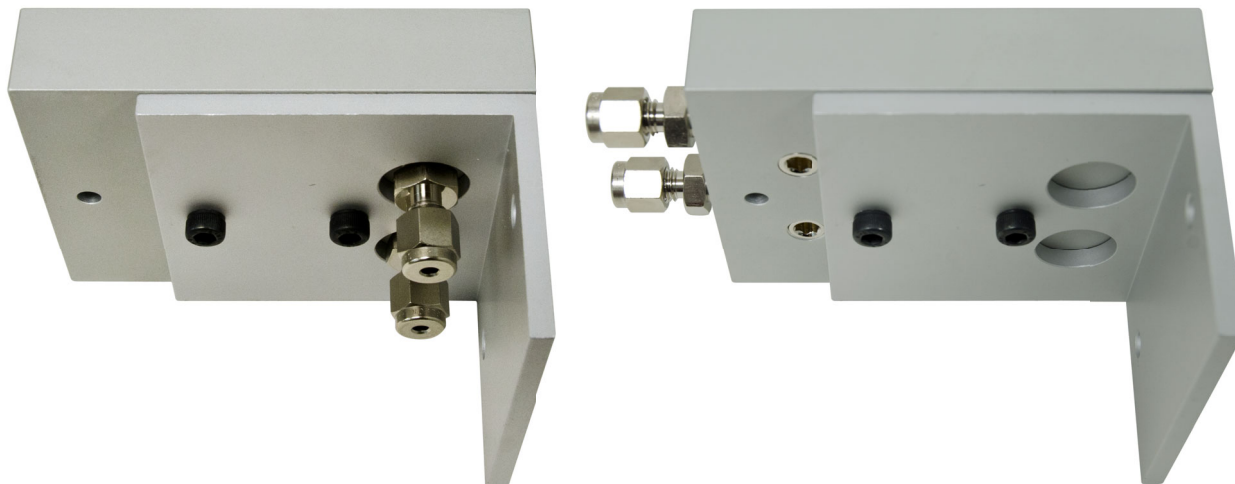

Figure 9. Connecting unit orientations on wall mounting bracket
- a Depending on the inlet/outlet fitting orientation on the connecting unit, align the connecting unit to the bracket as shown in **Figure 9**.